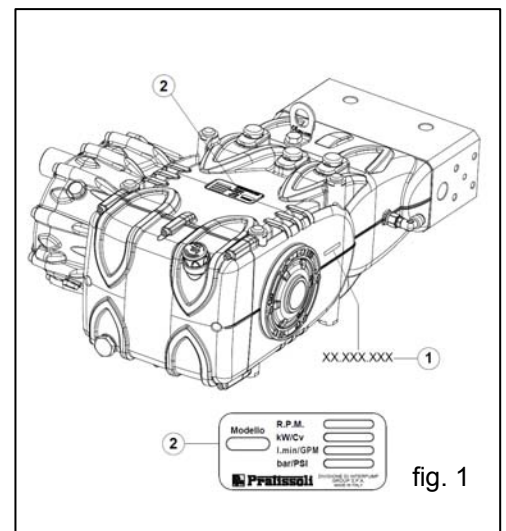

fig. 1
Each pump has its own serial number XX.XXX.XXX, see point ① and a specification label see point ② of fig. 1 which shows: